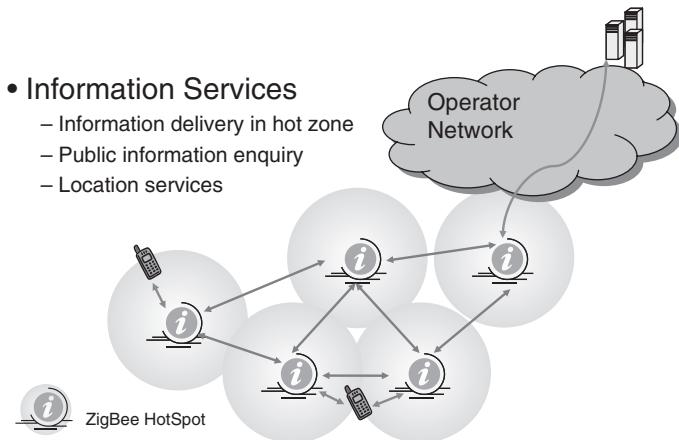

Figure 1.9: Telecom Application Information Services
In Telecommunications Applications (TA), for example, companies are creating products that can introduce location-based services (see Figure 1.9). These services could advertise specials, services, or sales (at your option) based on the location of your cell phone. The cell phone company already knows where your phone is from a cell tower perspective, but that can be a 15-mile radius or more, far too broad for location-based services.